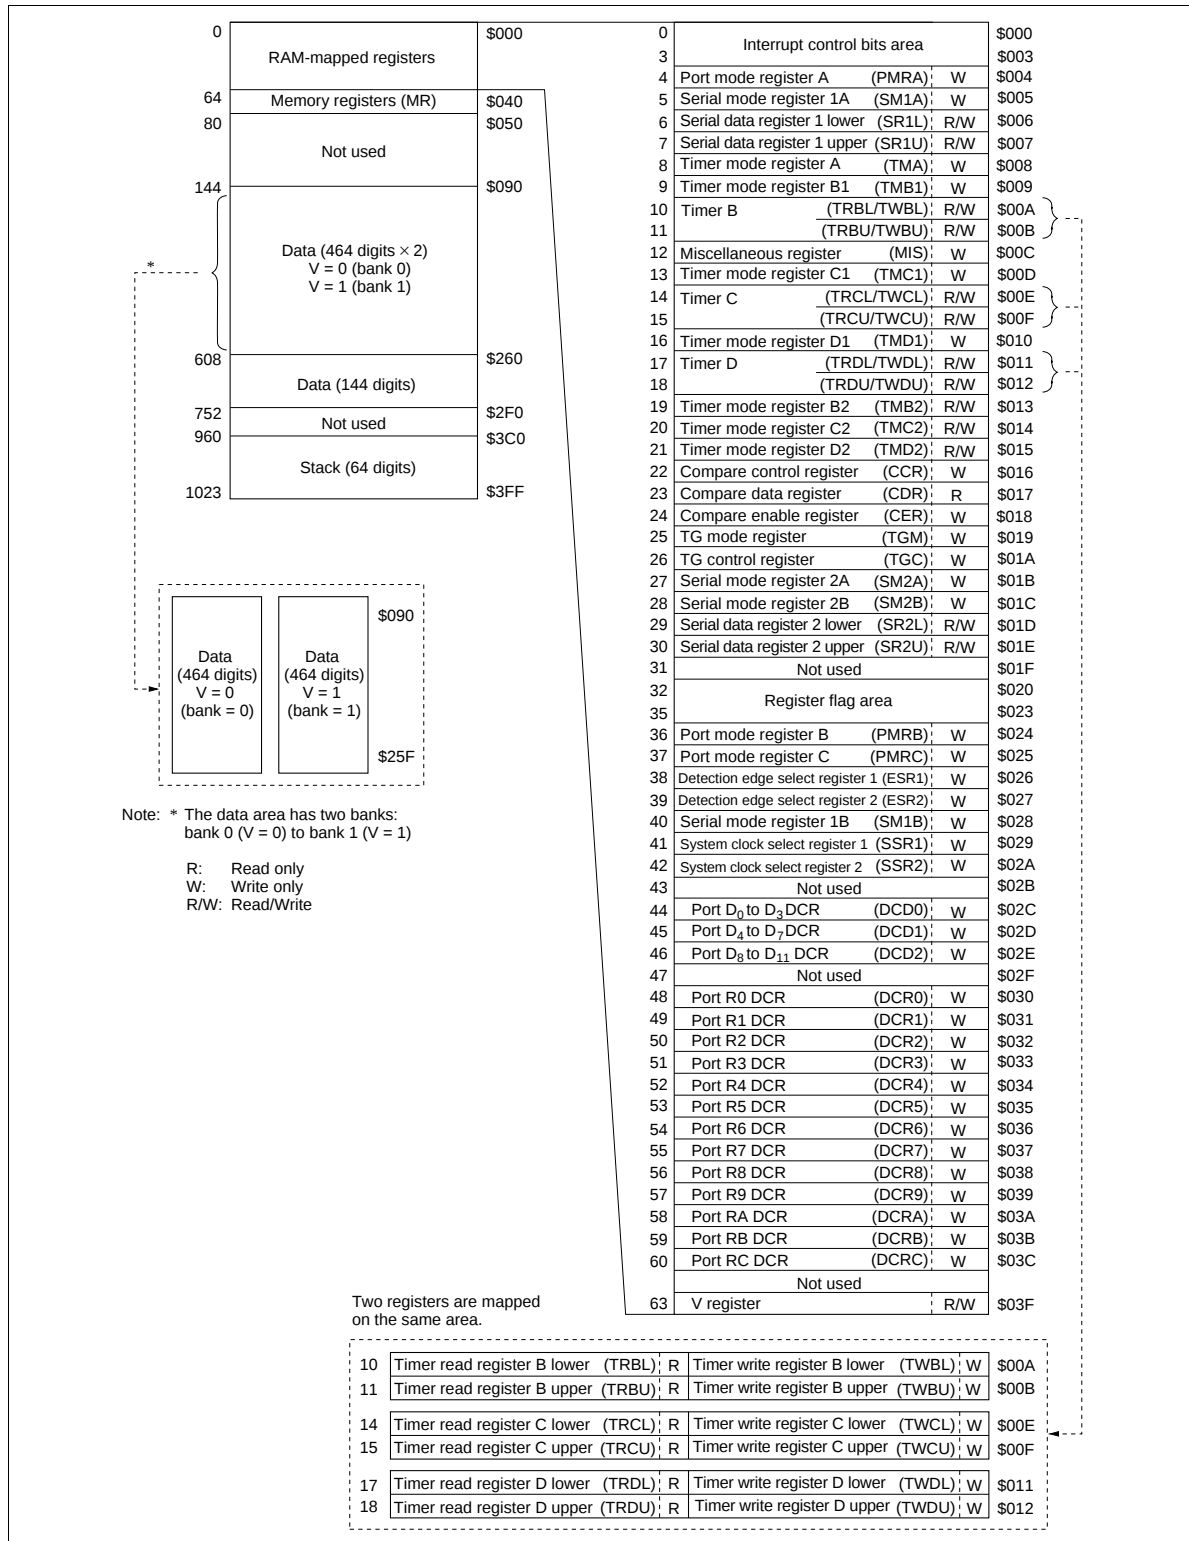

Figure 2 RAM Memory Map
The MCU contains a 1,152-digit $\times$ 4-bit RAM area consisting of a memory register area, a data area, and a stack area. In addition, an interrupt control bits area, special register area, and register flag area are mapped onto the same RAM memory space as a RAM-mapped register area outside the above areas. The RAM memory map is shown in figure 2 and described as follows.
This area is used as mode registers and data registers for external interrupts, serial interface 1, serial interface 2, timer/counters, voltage comparator, and as data control registers for I/O ports. The structure is shown in figures 2 and 5. These registers can be classified into three types: write-only (W), read-only (R), and read/write (R/W). RAM bit manipulation instructions cannot be used for these registers.